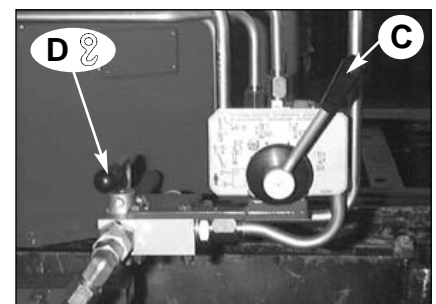

fig. 26
- Move the lever **D** controlling the crane/outriggers oil-diverter (☺ - E/S) to activate the crane controls. (Fig. 26).